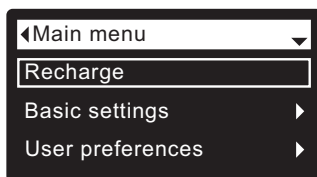

FIG. 42
2. Make sure **Recharge** is highlighted (See Figure 42).